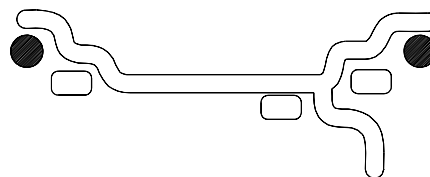

Figure 15
**A. DYNAMIC** (two planes), suggested for all steel rims. In this case the wheel weights must be clipped onto the rim edges. This function is selected as a default and the LEDs corresponding to the wheel weight location are lit on (Figure 15).